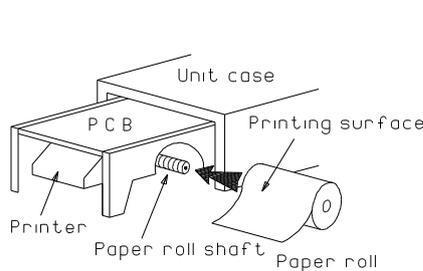

Figure 1
- 6.2.2 Set the paper roll on the shaft (See Figure 1). Since the outer and inner surfaces of the paper are different set the roll so that the printing surface is the outer.